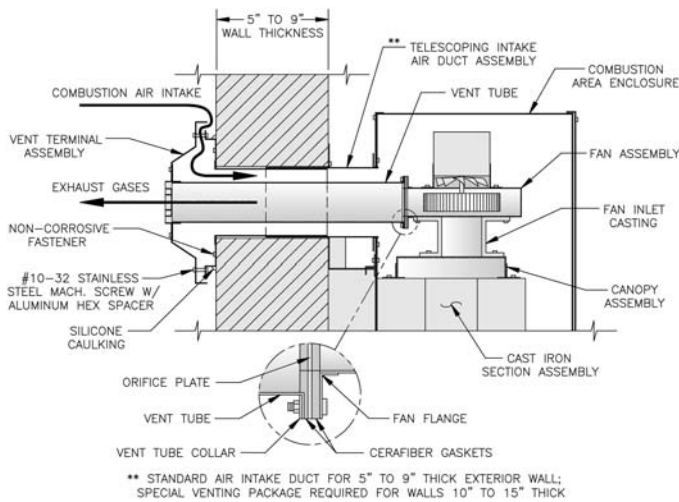

Figure 4
Provide provisions for combustion and ventilation air in accordance with Section 5.3, Air for combustion and ventilation, of the National Fuel Gas Code, ANSI Z223.1 or applicable provisions of local building codes. This boiler is equipped with a fan which produces an induced draft through the unit. Combustion air is pulled in from outdoors and the flue gases are exhausted to the outdoors through the intake air/vent system. (See Figure 4).
NOTE: On the back plate of the boiler is a "Z" bracket approximately 10" long. When the boiler is lifted into place, this bracket must be lowered into the ½" wide x 11" long slot at the top of the boiler mounting wall bracket. (See Figures 4 and 5)
3 INSTALLING EXTERIOR TELESCOPING INTAKE AIR DUCT (See Figures 4 and 5)
4 INSTALLING VENT TUBE, ORIFICE PLATE AND VENT TERMINAL COVER (See Figures 4 and 5).
- d. IMPORTANT! Before connecting vent tube to fan, install the orifice plate and two (2) cerafibre gaskets on the fan outlet flange weld studs in the proper order of assembly, gasket first, orifice plate second and remaining gasket last. (See Figures 4 and 5).
- e. Insert the vent tube, flange first, through the intake air duct and secure to fan outlet flange with four (4) ¼” flat washers, ¼” lock washers and ¼”-20 brass hex nuts provided.
- f. Position vent terminal cover over exterior intake air duct. Insert end of vent tube into collar on rear of vent terminal cover. Align four (4) holes on cover with ½” long threaded aluminum spacers. Secure vent terminal cover with four (4) #10-32 x ¼” long stainless steel machine screws provided.